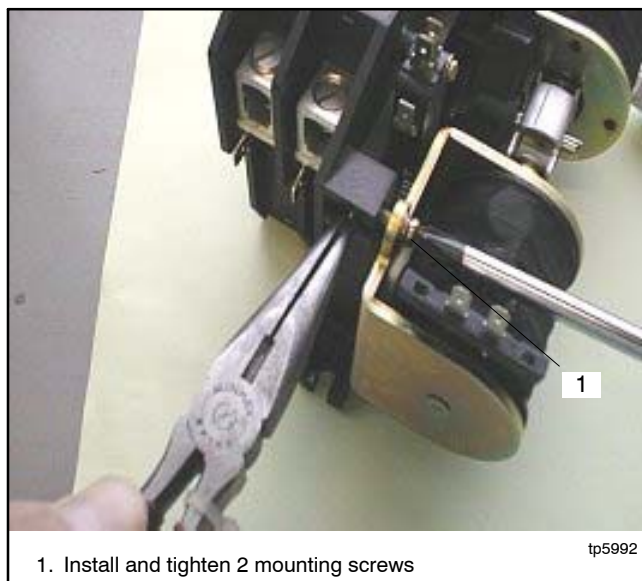

Figure 7-13 Installing the Coil Assembly, Typical
3. Install and tighten the two mounting screws. Use pliers to hold the nuts while inserting and tightening the screws. See Figure 7-13.